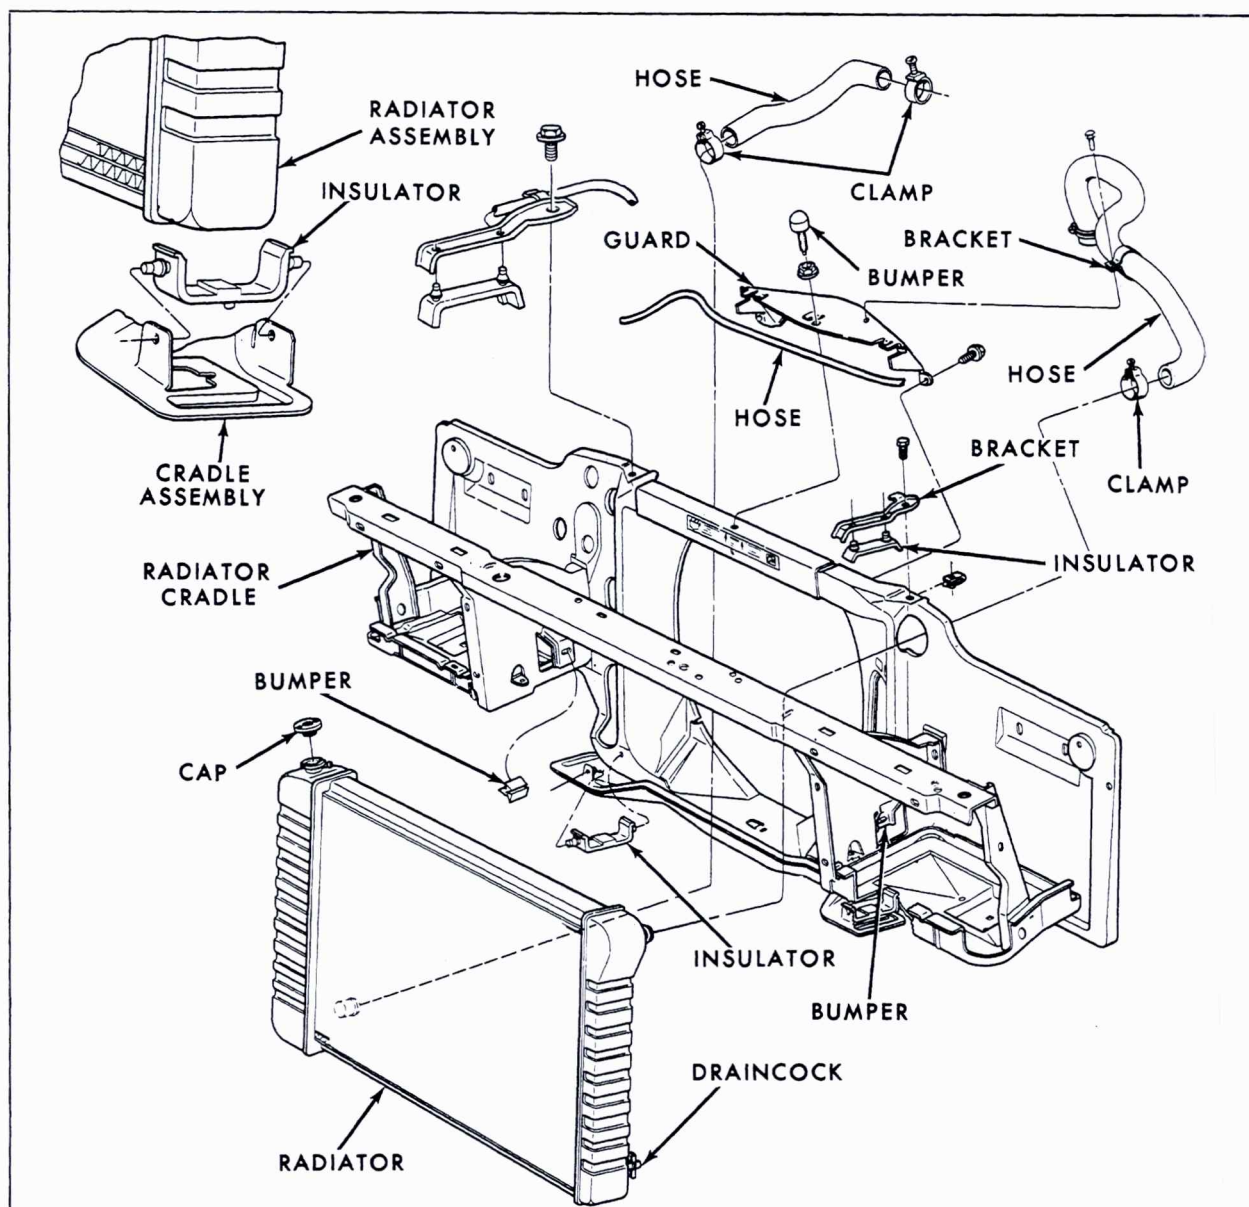

Fig. 13-2 Radiator and Cradle Assy.
a. Removal (Fig. 13-2)
b. Installation (Fig. 13-2)